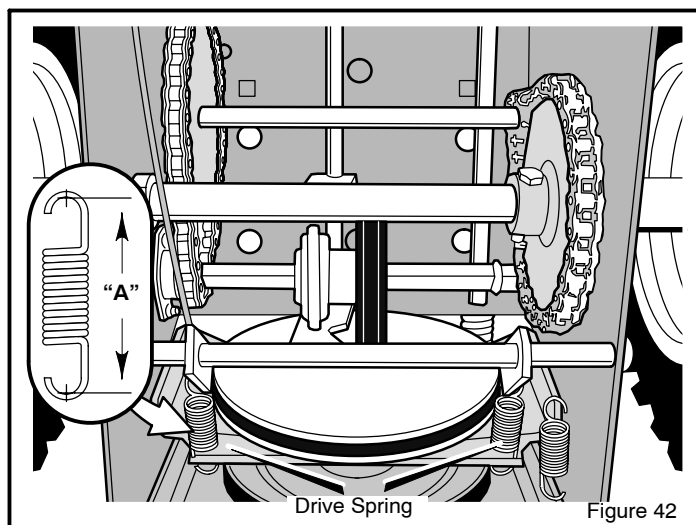

Figure 42
11. To check the adjustment, depress the drive lever and check the length of the **drive spring** (see Figure 42). In correct adjustment, the length of the **drive spring** is